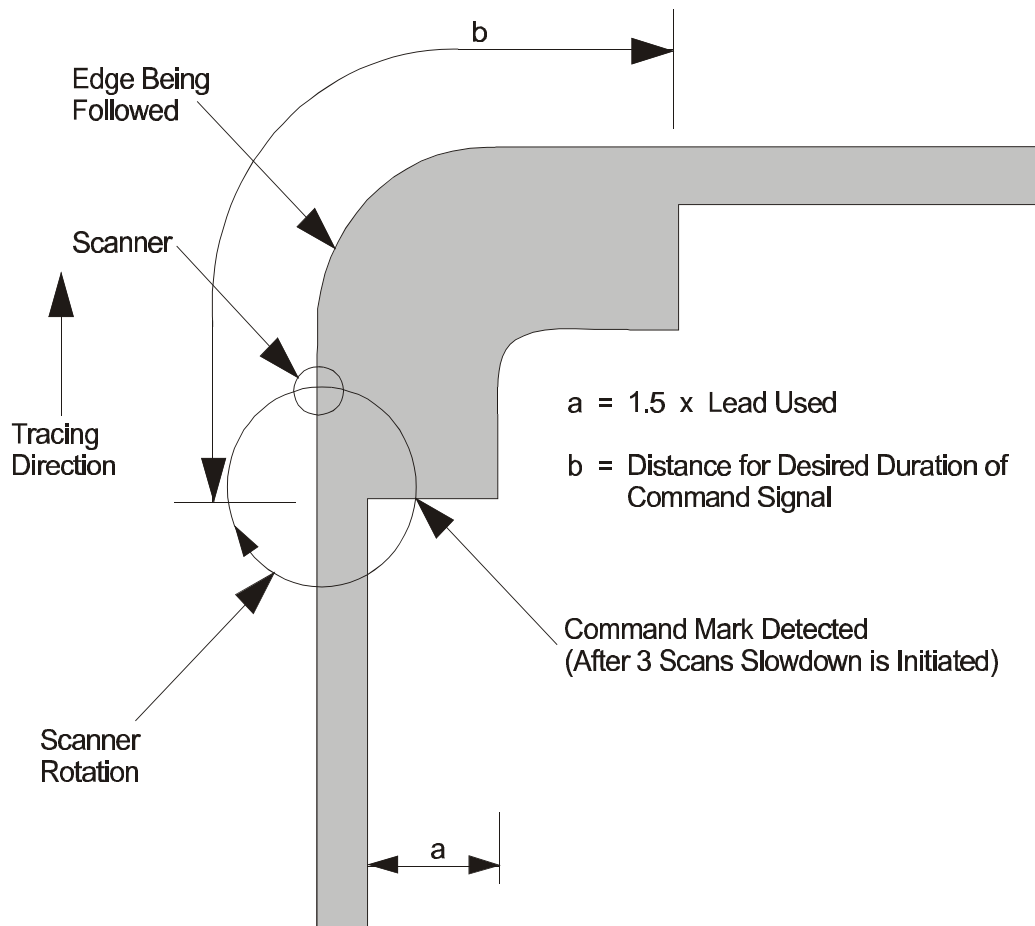

Figure 5-6 Command Mark for Corner Slowdown
Command marks are detected at 90E after line interception. When drawing Command marks, the dimensional information given in Figure 5-6 should be closely followed, noting these points:
2. The width of the Command mark (dimension 'a' in Figure 5-6) should be at least 1½ times the lead used, without any gap between it and the pattern line.